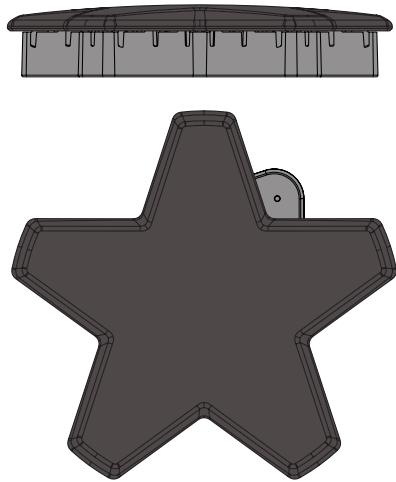

Figure 11 : Correct Burner Cap Placement
- Check each burner to make sure there is no gap between the burner cap and burner base. See *Figures 11 and 12: Correct and Incorrect Burner Cap Placement* to see examples of correct and incorrect placements of the burner cap.
- You may gently try to move the burner caps from side to side to check if the caps are properly placed on the burner bases. When properly placed, each burner cap will rest flat on top of its burner base, and completely cover the star-shape of the burner base when viewed from the top as shown in *Figure 11: Correct Burner Cap Placement*.